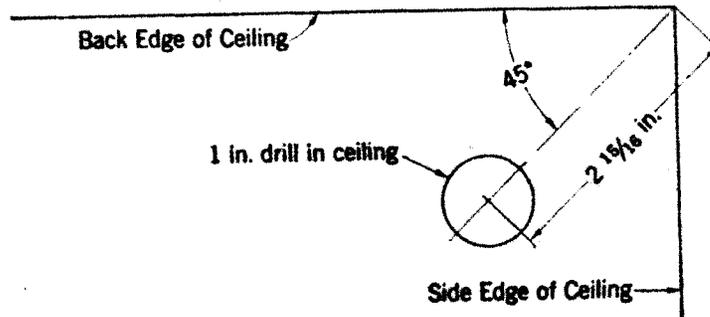

Fig 1—Location of Mounting Hole in Booth Ceiling
2.01 Remove the connector from the ventilator fan cable and install the ventilator as shown in Figs. 1 and 2 of this addendum. After fastening the connector in place in the booth lamp receptacle, thread the fan cable through it and attach the cable conductors to the receptacle terminals as shown in Fig. 11 of Section C52.206.